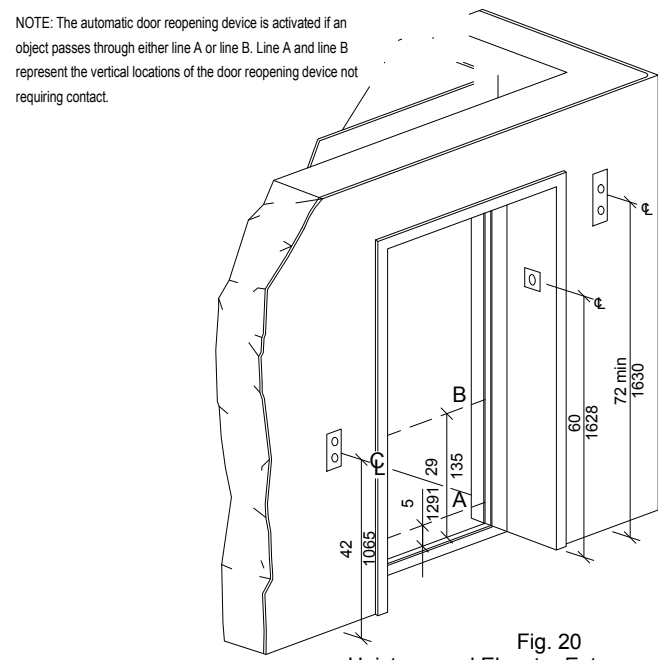

Fig. 20
**4.10.3 Hall Call Buttons.** Call buttons in elevator lobbies and halls shall be centered at 42 in (1065 mm) above the floor. Such call buttons shall have visual signals to indicate when each call is registered and when each call is answered. Call buttons shall be a minimum of 3/4 in (19 mm) in the smallest dimension. The button designating the up direction shall be on top. (see fig. 20) Buttons shall be raised or flush. Objects mounted beneath hall call buttons shall not project into the elevator lobby more than 4 in (100 mm).
(1) Hall lantern fixtures shall be mounted so that their centerline is at least 72 in (1830 mm) above the lobby floor (see fig. 20).
(2) Visual elements shall be at least 2 1/2 in (64 mm) in the smallest dimension.
(3) Signals shall be visible from the vicinity of the hall call button (see fig. 20). In-car lanterns located in cars, visible from the vicinity of hall call buttons, and conforming to the above requirements, shall be acceptable.
**4.10.5 Raised and Braille Characters on Hoistway Entrances.** All elevator hoistway entrances shall have raised and Braille floor designations provided on both jambs. The centerline of the characters shall be 60" (1525 mm) above finish floor. Such Characters shall be 2" (50 mm) high and shall comply with 4.30.4. Permanently applied plates are acceptable if they are permanently fixed to the jambs. (see fig. 20).
**4.10.6 Door Protective And Reopening Device.** Elevator doors shall open and close automatically. They shall be provided with a reopening device that will stop and reopen a car door and hoistway door automatically if the door becomes obstructed by an object or person. The device shall be capable of completing these operations without requiring contact for an obstruction passing through the opening at heights of 5 in and 29 in (125 mm and 735 mm) above finish floor (see fig. 20). Door reopening devices shall remain effective for at least 20 seconds. After such an interval, doors may close in accordance with the requirements of ASME A17.1-1990.